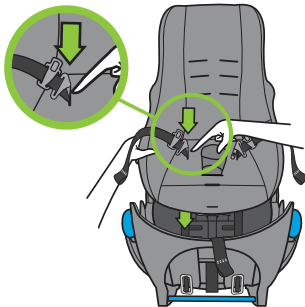

Figure 96
- Push Buckle Tongue down through hip strap opening in Carrier Cover and Inner Carrier Shell, as shown in **Figure 96**.